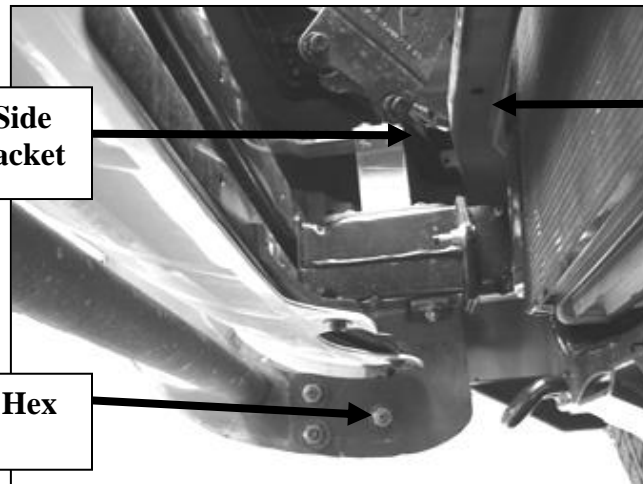

Figure 3
6. Once Both Mounting Brackets are installed, proceed to install the Top Brackets. Insert flat side of Top Brackets through the upper section on the factory grille shell. Attach Top Brackets to Mounting Brackets by using the included (4) 10-1.50mm x 25mm Hex bolts, (4) 10mm Nylock Nuts, and (8) 10mm Flat Washers (Figure 3). Do not tighten at this time.
8. Attach Grille Guard to Mounting Brackets using the included (6) 12-1.75mm x 30mm Hex Bolts, (6) 12mm Nylock Nuts, and (12) 12mm Flat Washers (Figure 3). Do not tighten at this time.